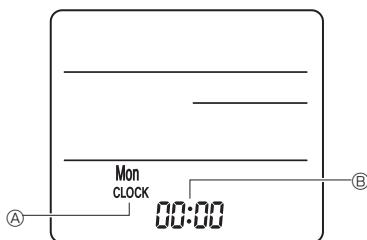

Fig. 6-8
3) Setting (Clock setting) (Fig. 6-8)
- ① Insert batteries or press the Ⓛ CLOCK button with something sharp. [CLOCK] Ⓐ and [:] Ⓑ blinks.
- ② Press the Ⓛ button with something sharp.
- ③ Press the Ⓛ button to set the time.
- ④ Press the Ⓛ CLOCK button with something sharp at the end. [CLOCK] and [:] lighted.